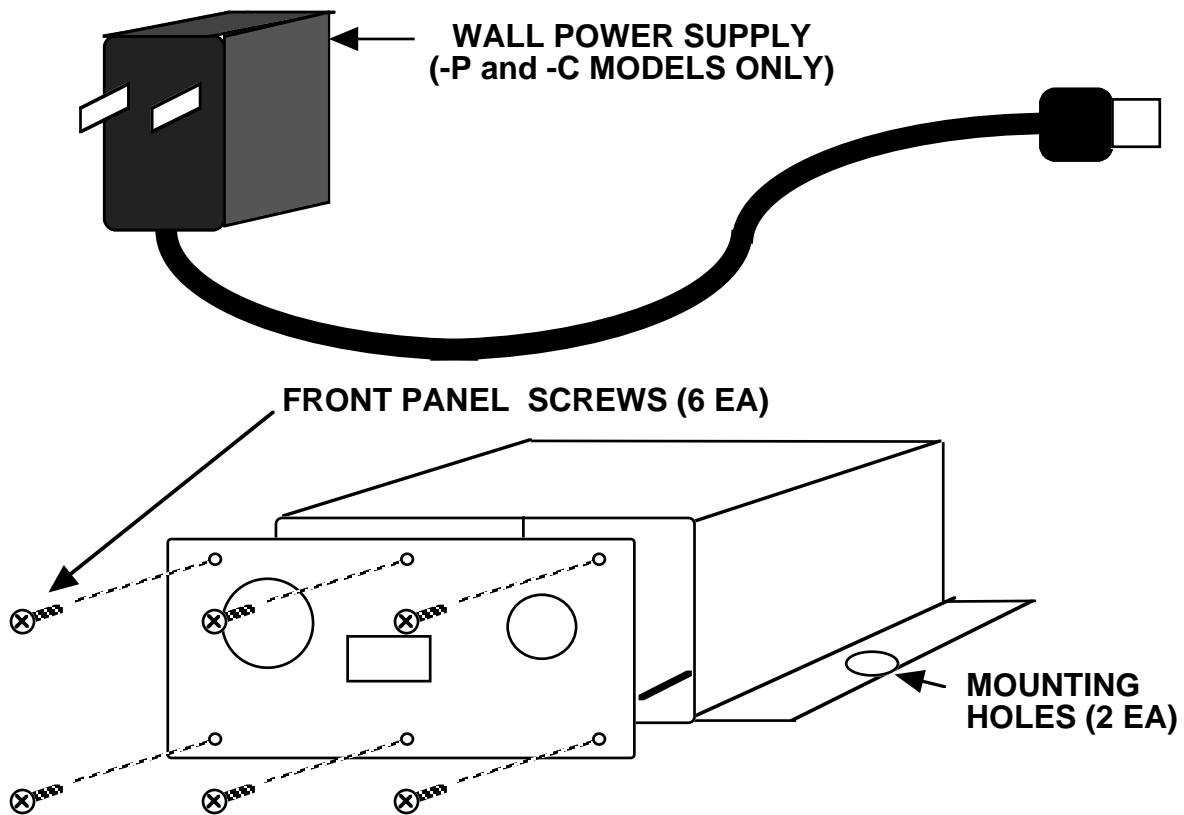
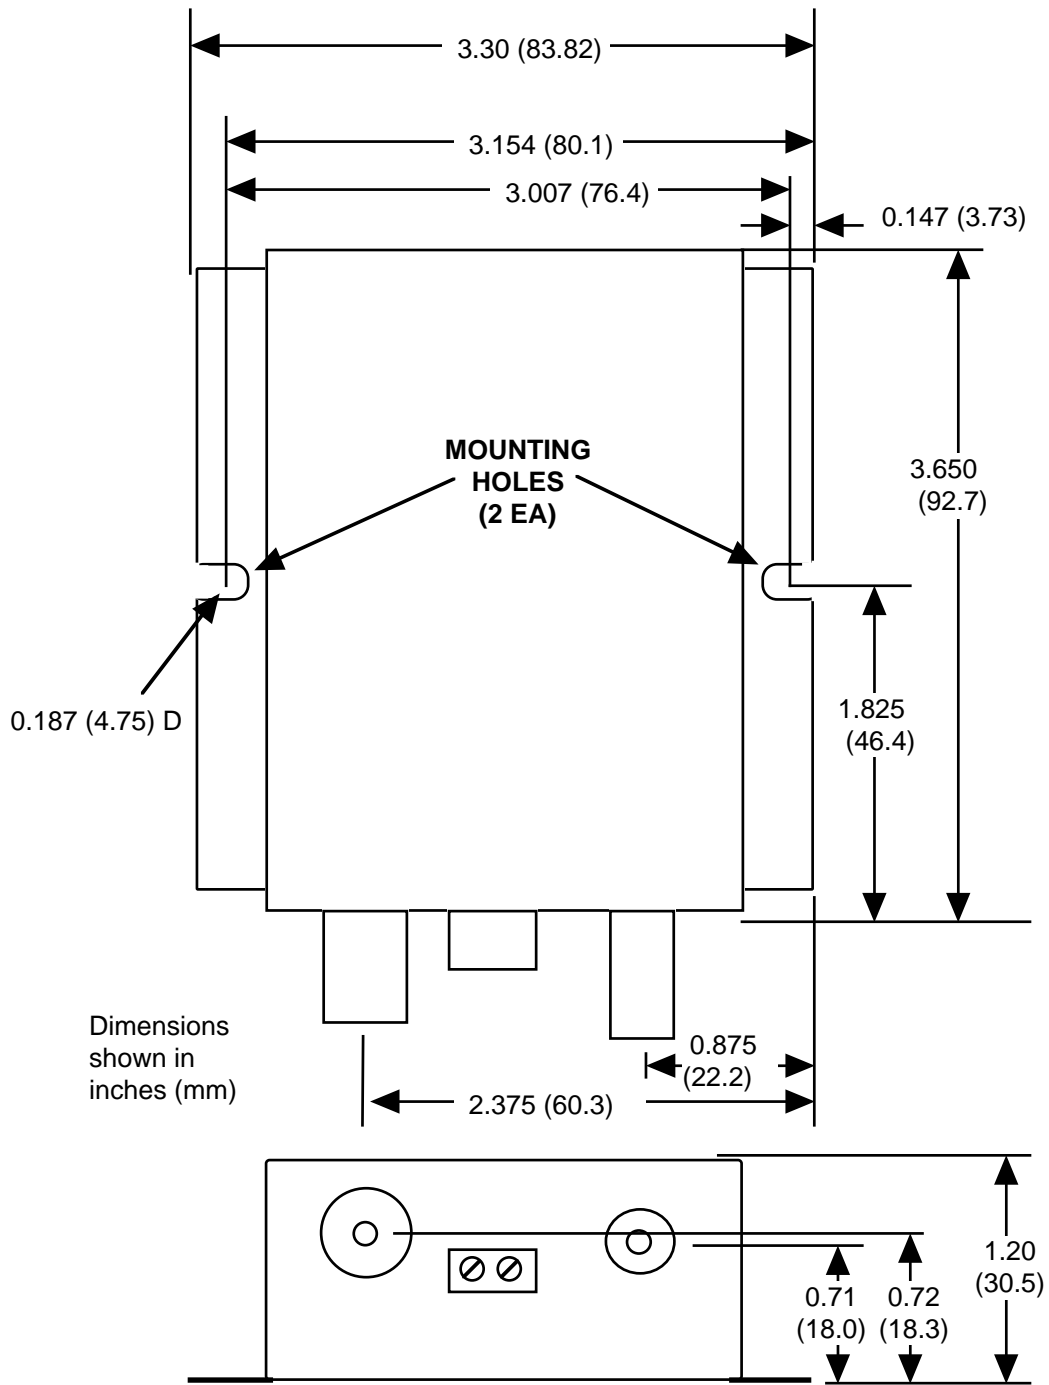

FIGURE 2.1 2006-03 Assembly Drawing
FIGURE 2.2 2006-03 Package Dimensions
The 2006-03 is packaged in an aluminum chassis. The unit can be mounted to a panel using the 2 holes at the bottom side flange. The unit derives +DC (+14 to +20 VDC) from the RF out center conductor (from the LNB) or +15 VDC from a wall mount power supply for the -P, -P4, and -C models. (See Figure 2.1 and Figure 2.2).
- 1.) Secure the 2006-03 to a panel using the two bottom mounting holes (see Figure 2.1 and Figure 2.2)